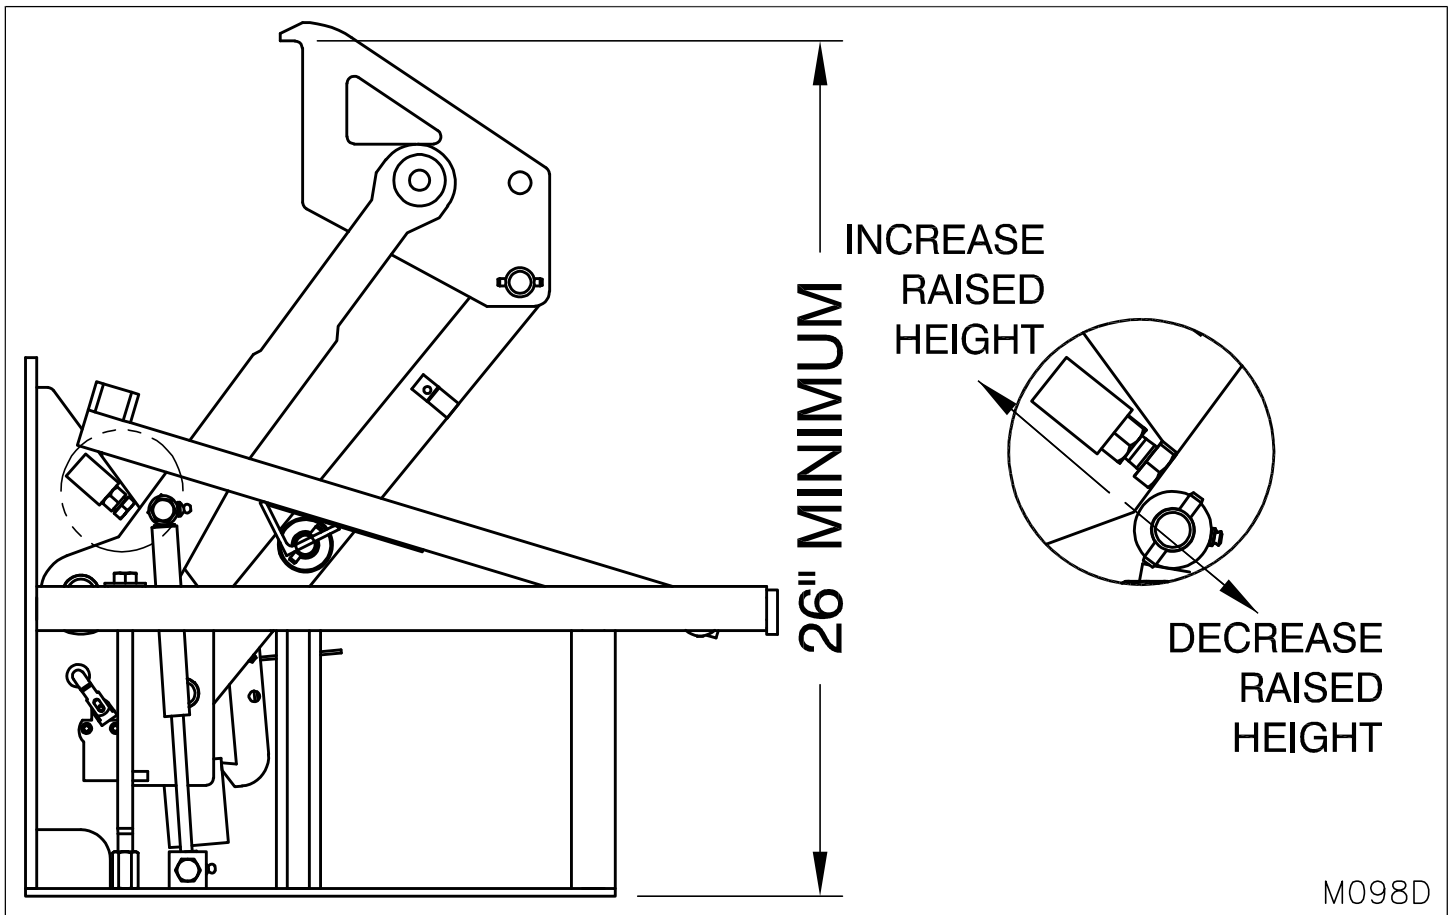

Figure 23: Raised Height Adjustment
**IF RAISED HEIGHT IS TOO LOW:** Loosen stop block locking nut. Turn adjustment bolt **in** to **increase** raised height up to the maximum raised height. When proper height is achieved, tighten lock nut against the adjustable stop block. (See "Figure 23: Raised Height Adjustment" on page 22)
**IF RAISED HEIGHT IS TOO HIGH:** Loosen stop block locking nut. Turn adjustment bolt **out** to **decrease** raised height. When proper height is achieved, tighten lock nut against the adjustable stop block. (See "Figure 23: Raised Height Adjustment" on page 22)